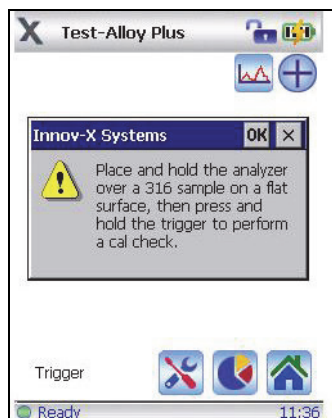

Figure 4-10 Instructions for the Cal Check procedure: Deadman trigger enabled
2. Read the dialog box instructions (see Figure 4-10 on page 72). Do NOT press **OK**.